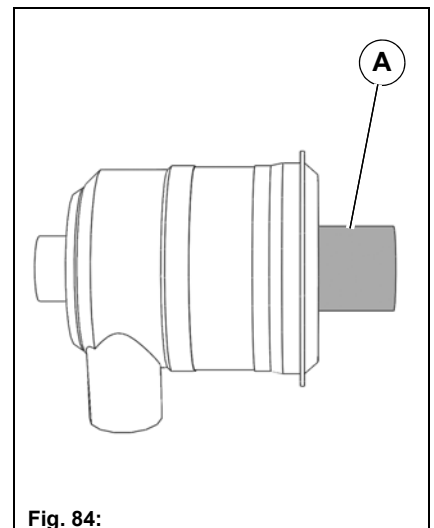

Fig. 84:
Renew the safety cartridge **Fig. 84-A** at the latest every 1000 operating hours when changing the filter insert.
4. Remove and change the safety cartridge **Fig. 84-A**.